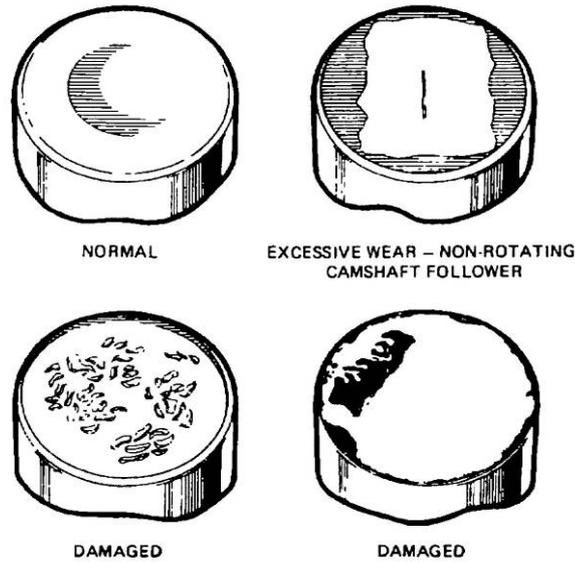

Figure 19 Camshaft Follower Wear Patterns
- c. Inspect the camshaft followers for pitting, cracking or wear (Figure 19). If no fault is evident, measure the diameter of the follower with a micrometer. The standard dimension is 27.92 to 27.98 mm